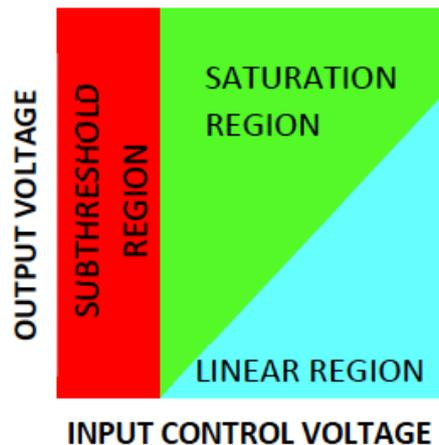

Figure 4.1: Regions of operation for a n-channel MOSFET.
- Figure 4.1 shows the regions of operation for a n-channel MOSFET. What would be the equations for the borderlines between the different regions?